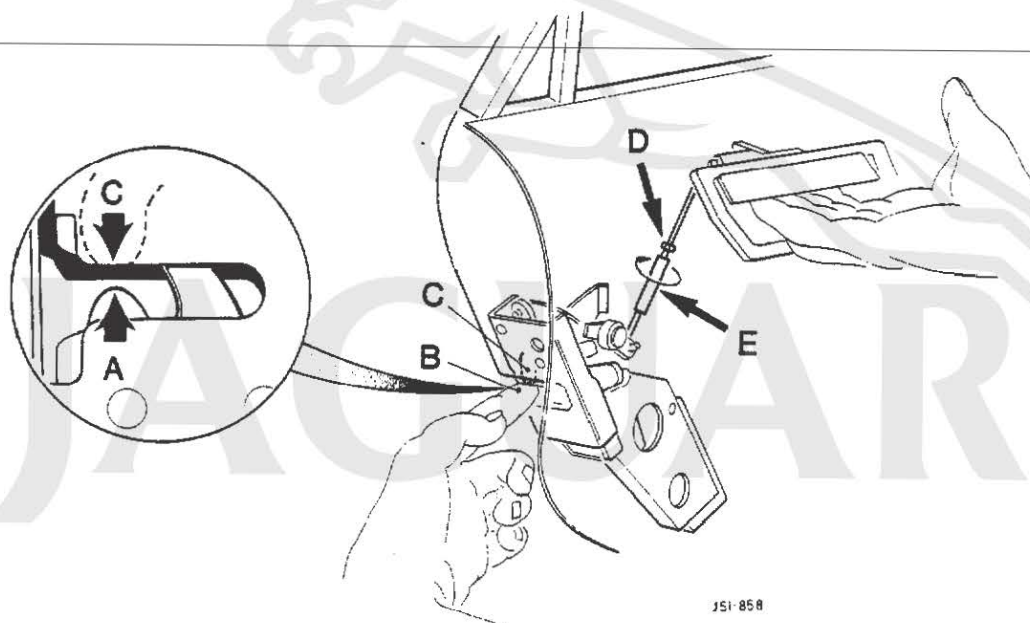

FIG 1
2. Release the locknut at the top of the handle link barrel nut (D Fig 1).
3. Place a finger into the striker slot to contact the pawl and with the other hand rotate the barrel nut in the direction of the arrow (E Fig 1) until the pawl ceases to move. Rotate the nut one further full turn or until free play is identified at the exterior handle.